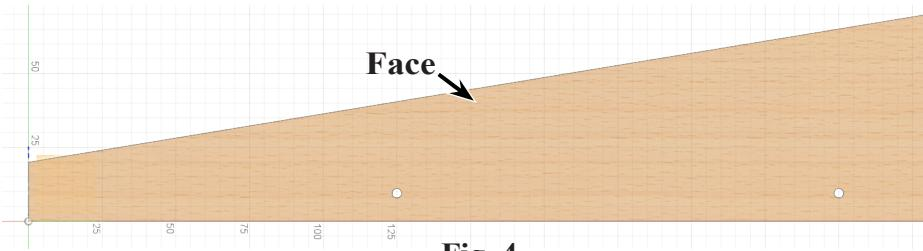

**Fig. 3**
- Step 2. Change dimensions as shown in **Fig. 3**.